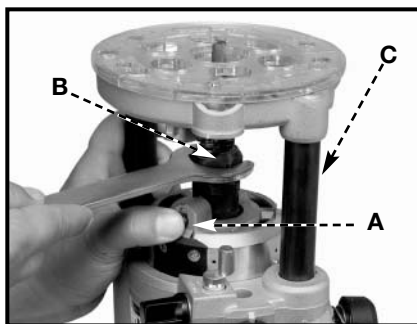
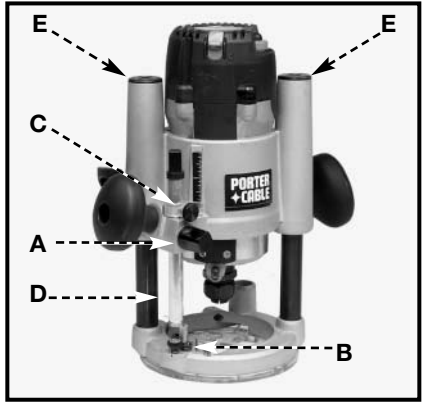

Fig. 8B
Fig. 11
1. Stand the router upside down on its motor cap (Fig. 8B).
3. Press the spindle lock button (A) Fig. 8B, and place a wrench on collet nut (Fig. 8B). Tighten firmly.
If you remove the springs from the posts (E) Fig. 11 to use the plunge base in a router table, remove the post plugs carefully. They are spring-loaded and should be removed only when the base housing is in the up position (Fig. 8B).
1. Loosen the depth rod locking knob (A) Fig. 11, and depth indicator knob (C) Fig. 11, allowing the depth rod (D) Fig. 11 to contact one of the turret stops (A) Fig. 12. Normally the deepest desired cut is set with the depth rod resting on the base casting (B) Fig. 11. The other three adjustable stops (A) Fig. 12 may be adjusted to any desired height. Any combination of fixed and/or adjustable stops may be utilized to achieve the desired depths required for a particular job. The adjustable stop (B) Fig. 12 will raise or lower that stop by 1/32" with one full turn of the stop.
3. Tighten the depth-rod locking knob (A) Fig. 11.
4. Position the depth indicator (C) Fig. 11 at the “0” position and tighten the knob (C) Fig. 11.
5. Loosen the depth-rod locking knob (A) Fig 11, and raise until the indicator aligns with the graduation representing the desired depth of plunge (Fig. 13).